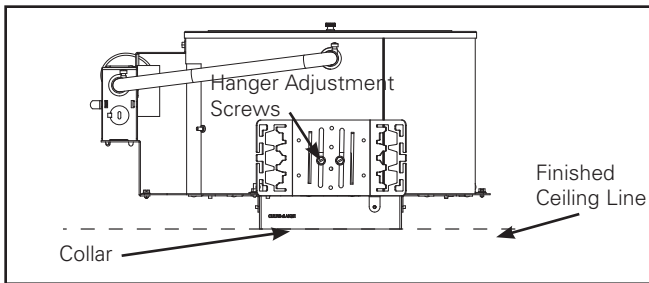

Figure 2.
2. Adjust hanger adjustment screws so bottom of collar is flush with finished ceiling line. Hanger bracket is reversible for total adjustment of 5" (Figure 2).